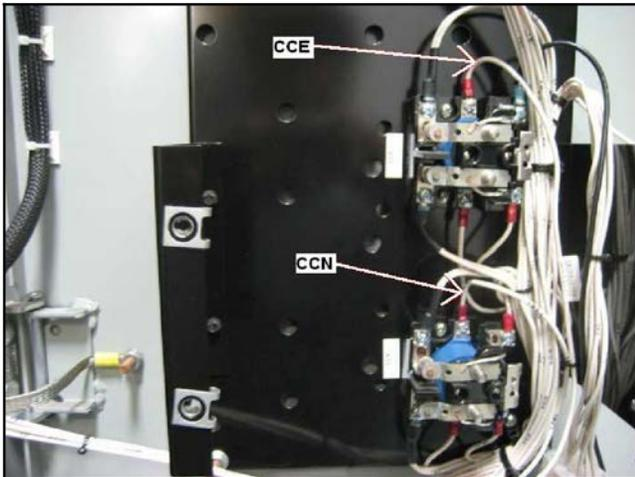

**Figure 51** Connect Leads 20 and 33 to Programmable Input 1 on Controller
34. Re-route leads 33 and 20 and connect them to the MPAC1500 Programmable Input 1. Connect lead 33 to MPAC1500 TB1-1. Connect lead 20 to MPAC1500 TB1-2. See Figure 51.